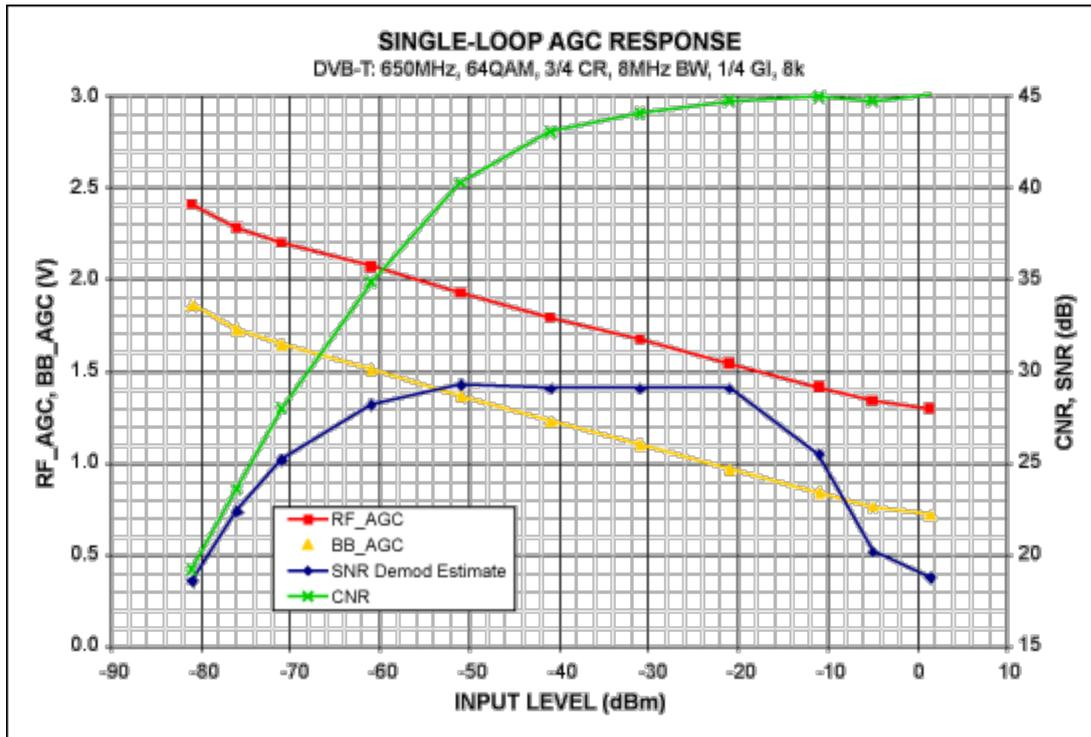

Figure 11. Single-loop AGC response with wanted signal only.
**Figure 11** shows that as the input level increases, the RF\_AGC is pulled down at ~0.6V above the BB\_AGC voltage. The CNR increases from 19.2dB at sensitivity to the measurement system limit of 45dB for maximum signal. The drop in SNR at input levels above -20dBm is explained by in-band intermodulation, which is included in the SNR measurement but not in the CNR measurement.